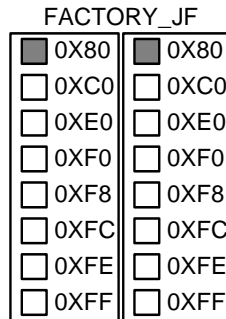

Figure 7: Edit Block View of DCM FACTORY_JF Settings
- Check the two 0X80 options for the FACTORY_JF DCM attribute, as shown in Figure 7.